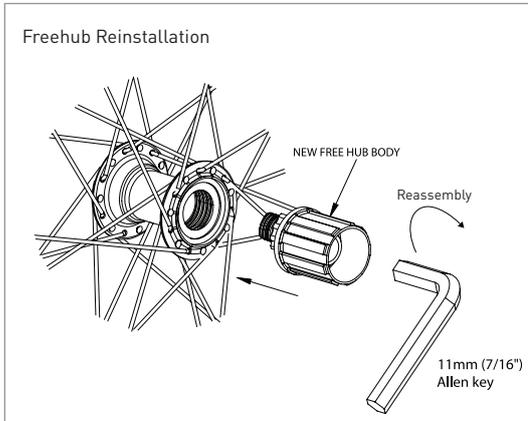

Figure 2
4. Place the wheel over the hex key, driveside-down so the hex key goes through the freehub and the freehub locking bolt notches inside. Turning the wheel in a clockwise direction, tighten the freehub fully (fig. 2).